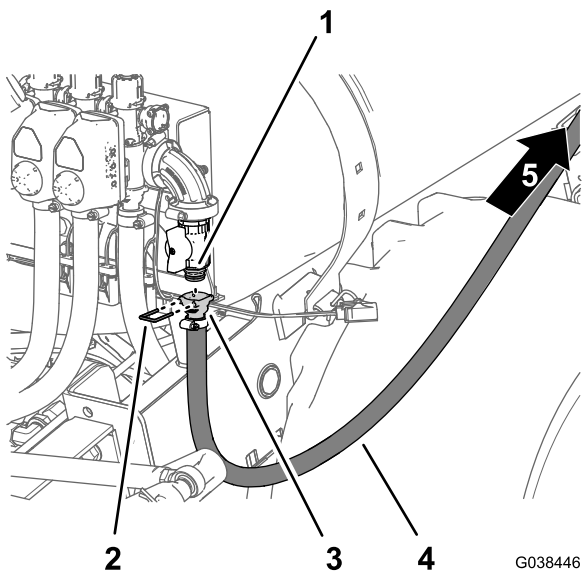

Figure 96
2. Assemble the straight barbed fitting of the hose to the quick-connect fitting of the flange shutoff valve (Figure 96).
3. Secure the straight barbed fitting and the quick-connect fitting (Figure 96) with the retainer that you removed in step 3 of Installing the Shutoff Valve for the Optional Spray Gun Kit or the Electric Hose Reel Kit (page 42).
4. Route the supply hose forward along the sprayer tank toward the hose reel (Figure 96).